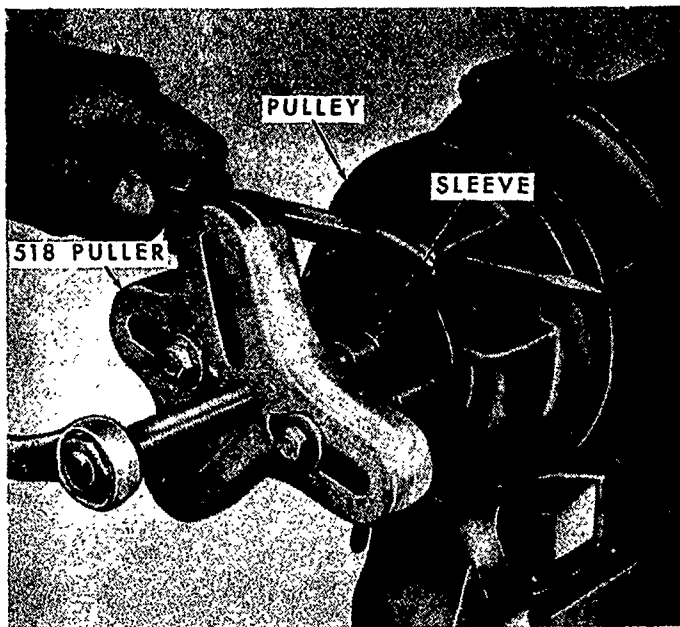

Figure 82
2. Using Puller No. 518 and a sleeve slightly smaller than the pulley shaft, remove the pump pulley from the shaft, as shown in Figure 82.